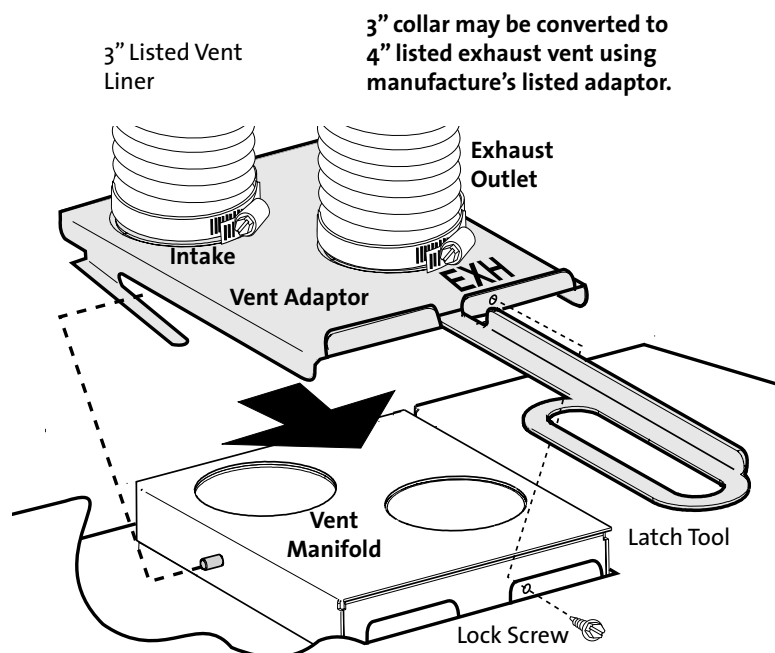

Figure 6.3. Vent Adaptor assembly.
1. Refer to fig. 6.3. Remove the lock screw from the Vent Adaptor panel and disengage the panel from the firebox. Keep the screw for reinstallation.